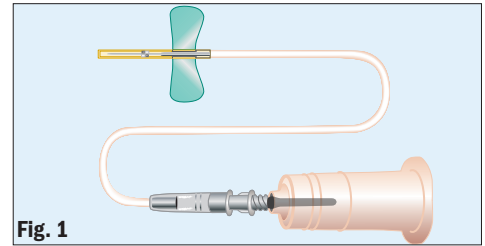

Fig. 1
4. Thread into holder. **(Fig. 1)**